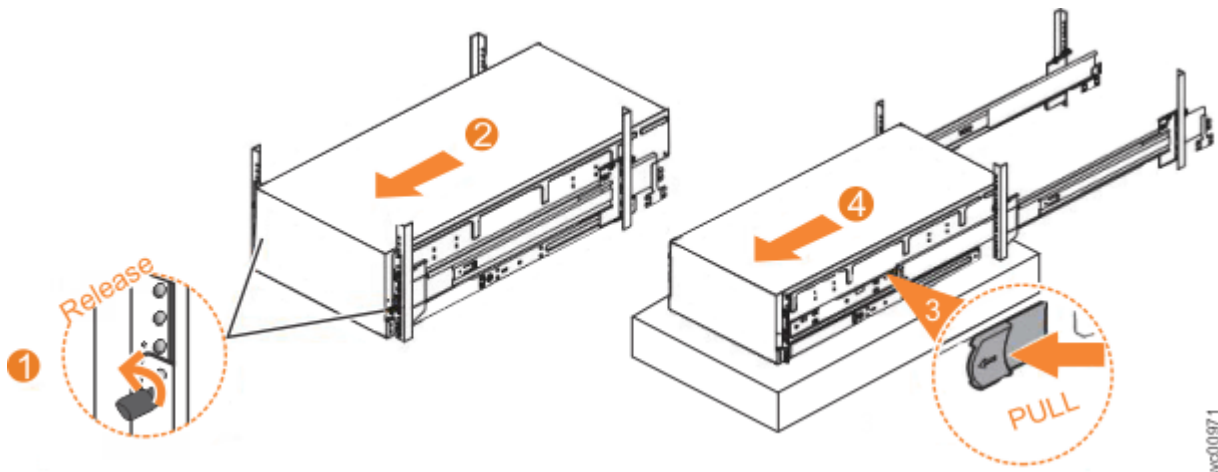

Figure 137. Removing the 5U expansion enclosure from the rack
1. Loosen the locking thumb screws (1) on the front of the enclosure, as shown in Figure 137 on page 177.
2. Carefully slide the enclosure forward out of the rack (2), as shown in Figure 137 on page 177.
3. Locate the left and right blue release tabs near the front of the enclosure. Pull both release tabs forward to unlock the drawer mechanism (3 in Figure 137 on page 177).
4. Slide the enclosure and inner rail member out of the rack (4 in Figure 137 on page 177).